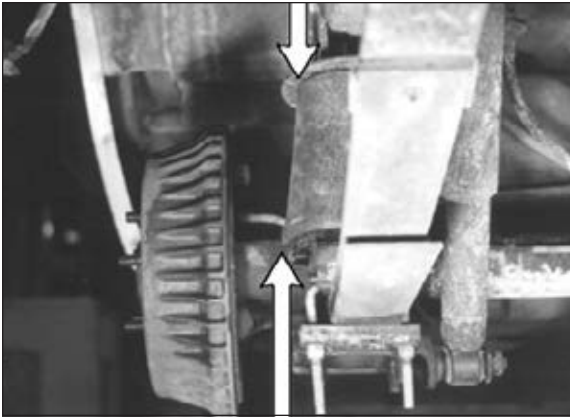

Figure 24
1. **IMPORTANT:** With the bottom of the air spring still loose, inflate the air spring to approximately 10 p.s.i. Use the slotted adjustment in the lower bracket to correctly align the air spring between the upper and lower bracket. This can be accomplished by tapping it inboard or outboard for proper alignment. There should be a symmetrical cushion of air around the base of the air spring when correctly positioned. Figure 24 represents a misaligned air spring. Figure 25 shows a properly aligned air spring.